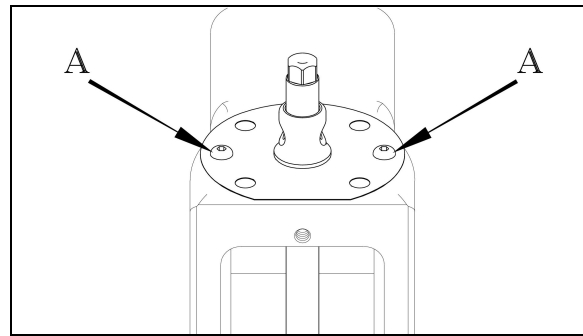

Fig 1
5. If the settings have changed, then loosen screws (A) in Fig 1. Slightly move the position of the diaphragm to adjust for the correct settings.